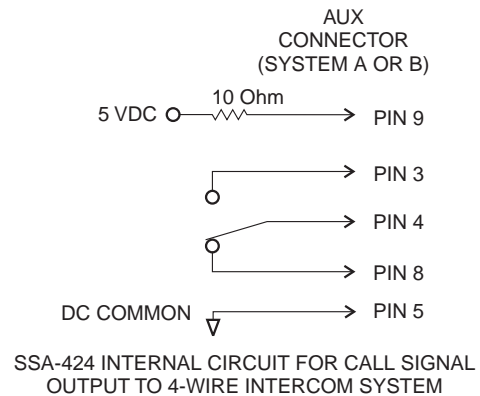

**Figure 6. Typical call send and call enable/inhibit connections for a 4-wire intercom system.**
**Figure 5. Call signal connections for ADAM, ADAM CS, or Zeus Intercom Systems.** This example uses GPI outputs #1 and #2 and GPI input #1; however, you may use any other available GPI inputs and outputs. The Call Enable/Inhibit connection is optional. It gives you the ability to disable call signaling using a GPI output. However, when connecting to a Clear-Com intercom system, if an enable/inhibit switch is not connected, a jumper must be installed as shown to enable call signaling. The jumper should not be installed for any other application. Note, you DO NOT have to use GPI outputs for call signaling or call enable/inhibit: you can use simple switches instead as shown in Figure 6.
The SSA-424 accepts a switch-contact input from the 4-wire system and then generates a call signal output to the 2-wire system. The SSA-424 also accepts an optional switch contact input to enable or inhibit call signaling between the 4-wire and 2-wire systems. Figure 6 shows the typical connections.